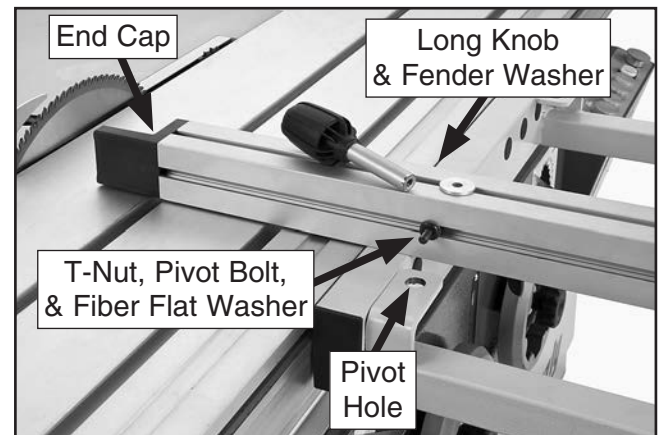

Figure 46. Crosscut fence hardware near to blade.
- a. Insert (1) M8-1.25 T-nut into T-slot, then loosely thread M8-1.25 pivot bolt with 8mm fiber flat washer into T-nut (see **Figure 46**).
- b. Position crosscut fence so edge cap (see **Figure 46**) is close to but not touching main blade.
- c. Align the pivot bolt with pivot hole (see **Figure 46**), then fully tighten pivot bolt.